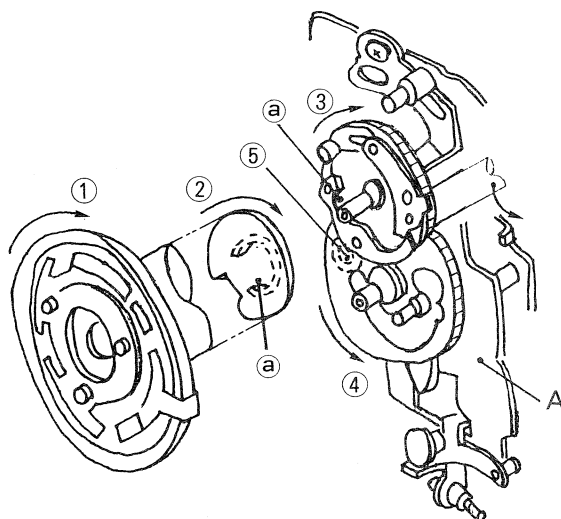
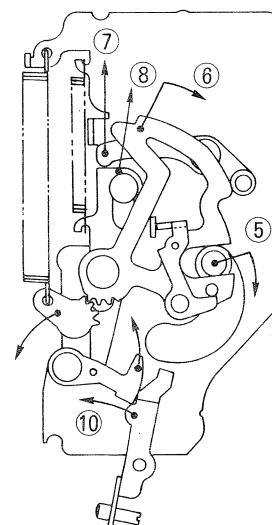
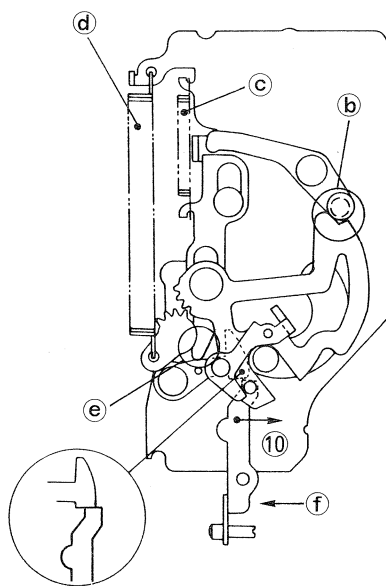

Fig. 5
Fig. 6 (Rear A)
Fig. 7
1. Cam part (a) is coupled to (3) clutch part (a), rotating (3), (4) and (5). (See Fig. 5) Then, pin (5) coupled direct to (4) rotates M charge cam (6) in the arrow direction (Fig. 6), whereby the tip pushes (7) up, and (8) operates by means of (c) spring action accordingly, then (9) is unlocked, and the force of charge spring (d) coupled direct to (6) is divided into (b) and (e) (Fig. 7), while M release lever (10) receives it for setting.
2. The release is actuated in the arrow direction after M release lever (10) and S release lever (f) (within the shutter mechanism unit) receive information from the moving coil.